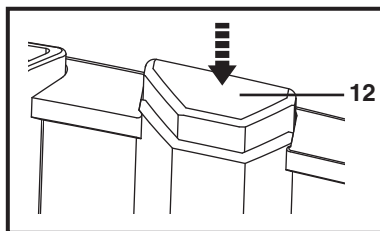

Fig. 5
1. Press the on/off switch (12) to switch the product on (Fig. 5).